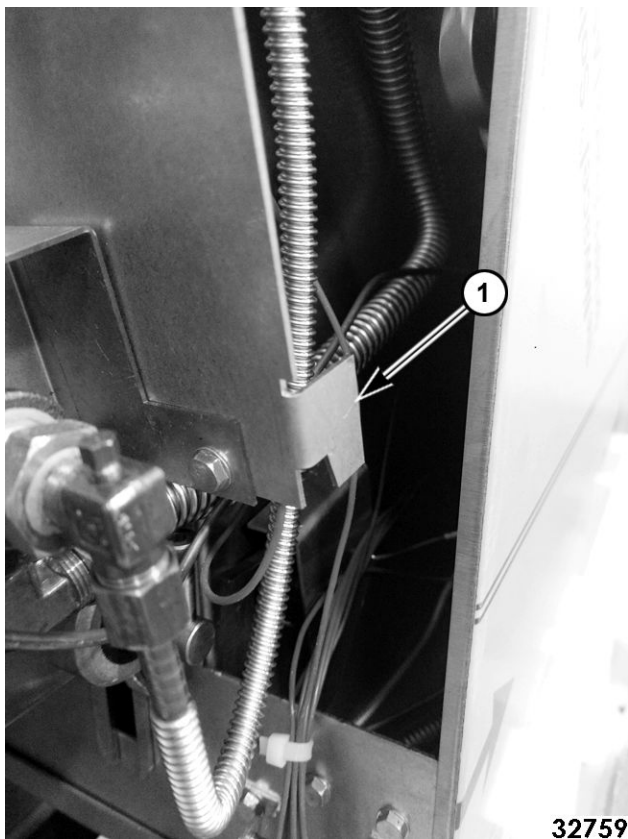

Fig. 39
6. Lift up gas mount bracket to release hook (1, Fig. 39) off inner tab (1, Fig. 39). Pull out pilot safety valve and temperature control bracket assembly from oven.